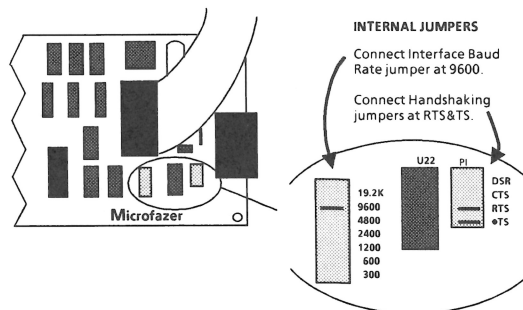

Figure 2-22 Microfazer Internal Jumpers
- c. Remove the printed circuit board from the casing and position it component side up. The end with the ribbon cable should be on the right with the term "Microfazer" in the lower right hand corner. (Figure 2-22).
- d. Locate the Interface Baud Rate pins on the circuit board. (Figure 2-22).
- f. Locate the Handshaking Pins (P1) chip, on the circuit board. (Figure 2-22).